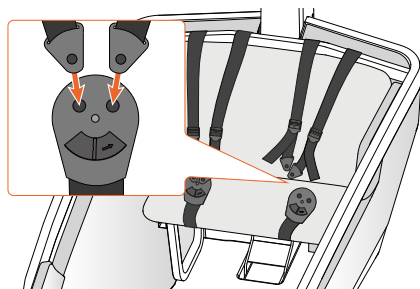

Figure 34 - Close the three-point seatbelts.
1. Place the bike on the stand ❶.
4. Click the ends of the shoulder straps into the clasp, as indicated in Figure 34: